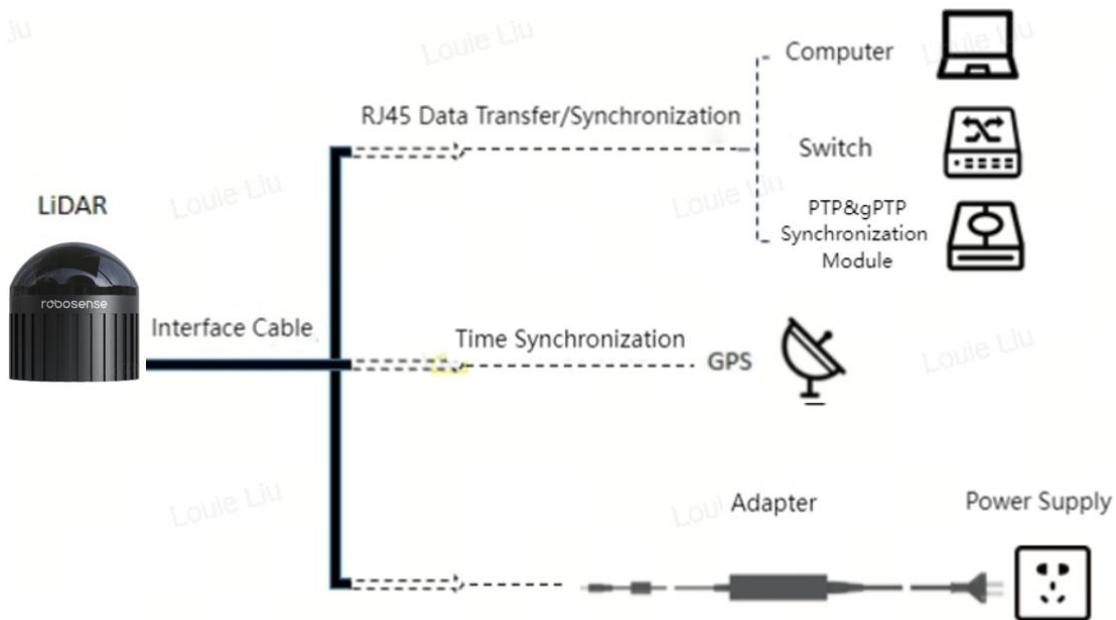

Figure 9 Interface Cable Connection Diagram
The connection method is shown in Figure 9
- 1) The time synchronization module (PTP & gPTP, GPS time synchronization module) is not included as a standard product. If you need to use these features, please purchase them separately and follow the connection method shown in Figure 9